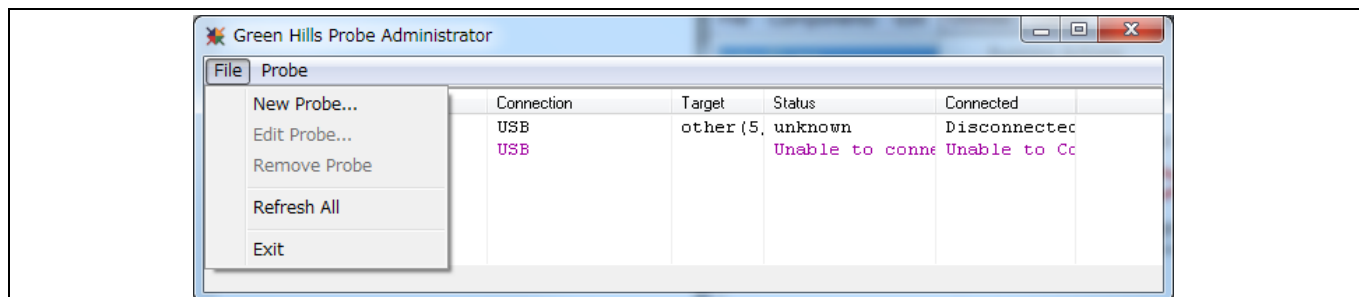

Figure 7 Probe administrator setup
3. Click the **File** tab and choose **New Probe...**, as shown in Figure 7.